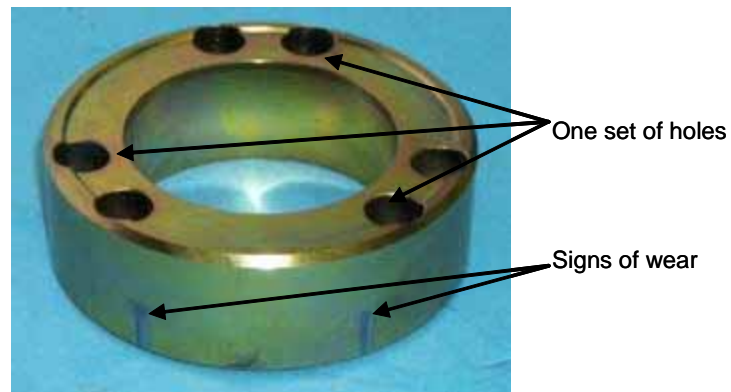

Figure 76. Inner ring.
- Place the inner ring (figure 76) on the three springs. The inner ring has two sets of holes used to rotate the inner ring after it shows signs of wear. Rather than replace the inner ring, it can be rotated to the previously unused set of holes for extended life.